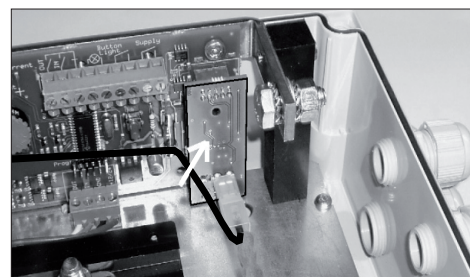

Fig. 4.8.1.d
6. Attach the end of the aerial with cable ties, as shown in fig. 4.8.1.b. Make sure that the aerial remains clear of the other components in the box. Bend to adjust it if not.